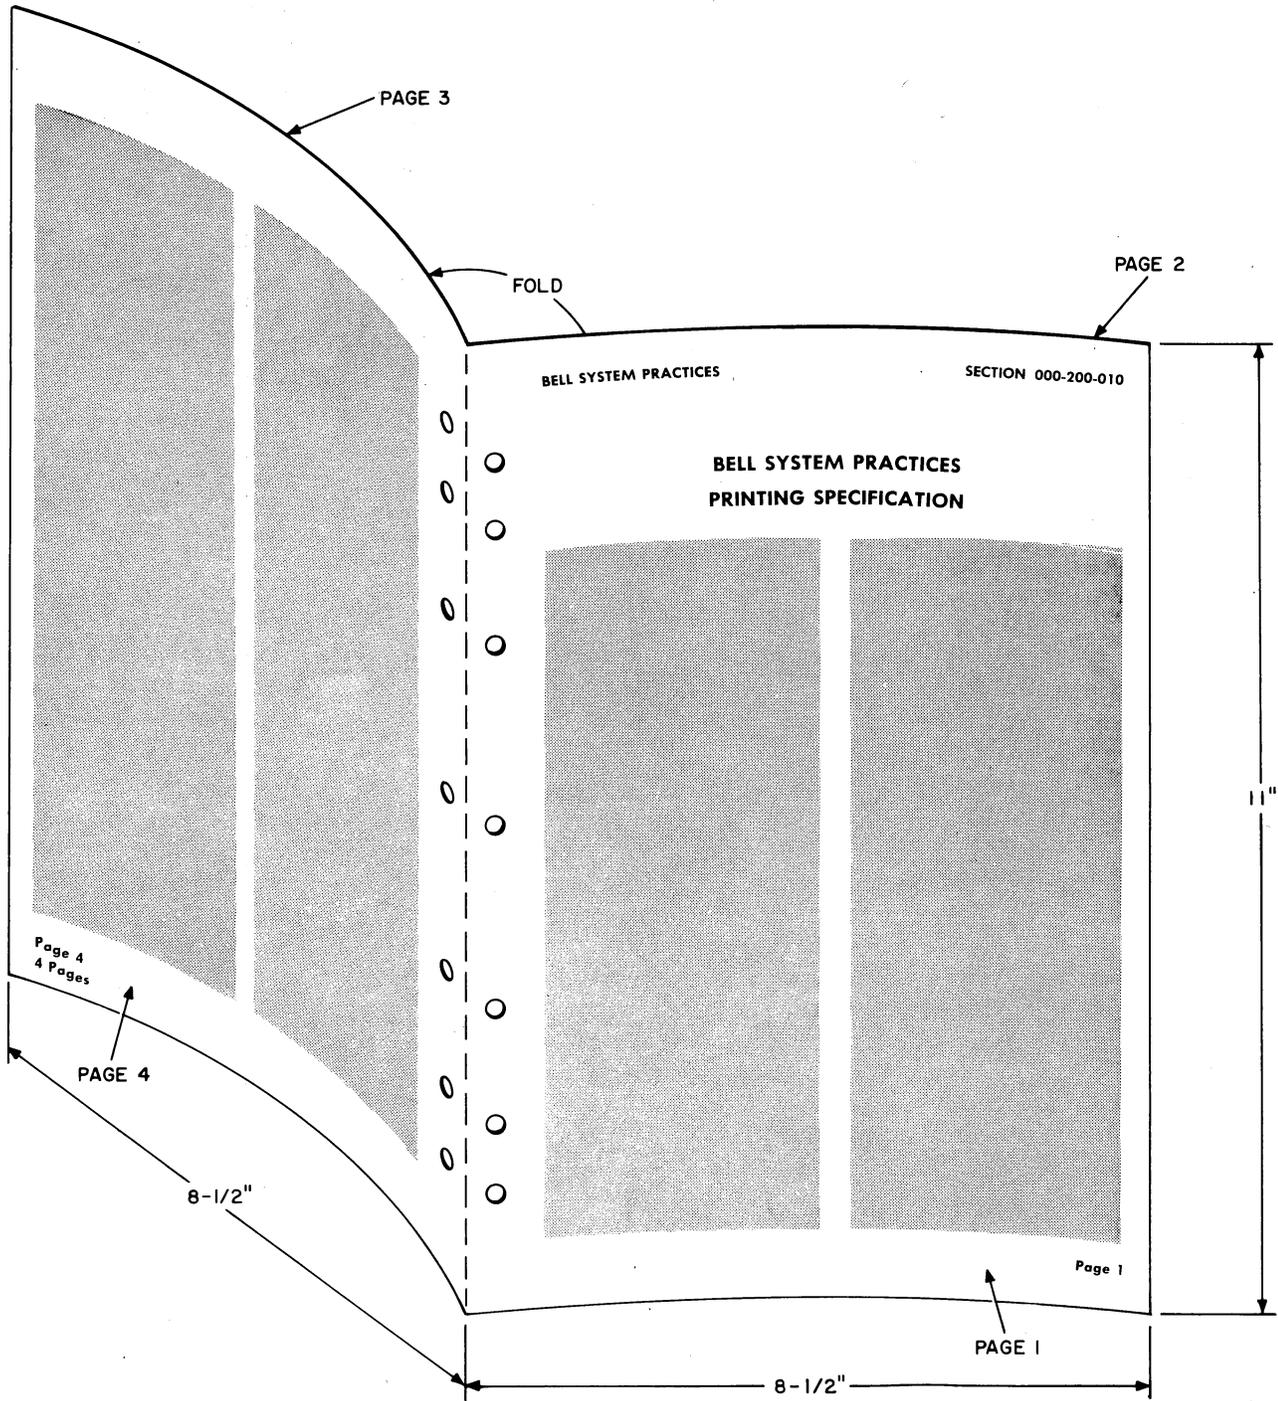

Fig. 5—Printing of Four BSP Pages on an Oversize Sheet
6.02 For sections of three or four pages, it is permissible to use an 11- by 17-inch sheet which is printed on both sides and is folded once. An example of this printing option is shown in Fig. 5.